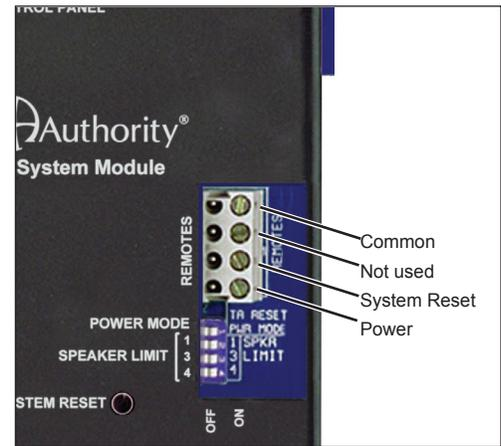
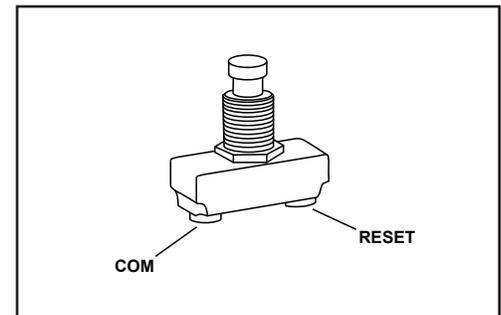

Figure 45. 980 Remotes terminal block.
Figure 46. SPST Switch.
- Connect a SPST switch (*Figure 46*) between the “Reset” and “COM” pins on the “Remotes” terminal block located on the 980 (*Figure 45*).